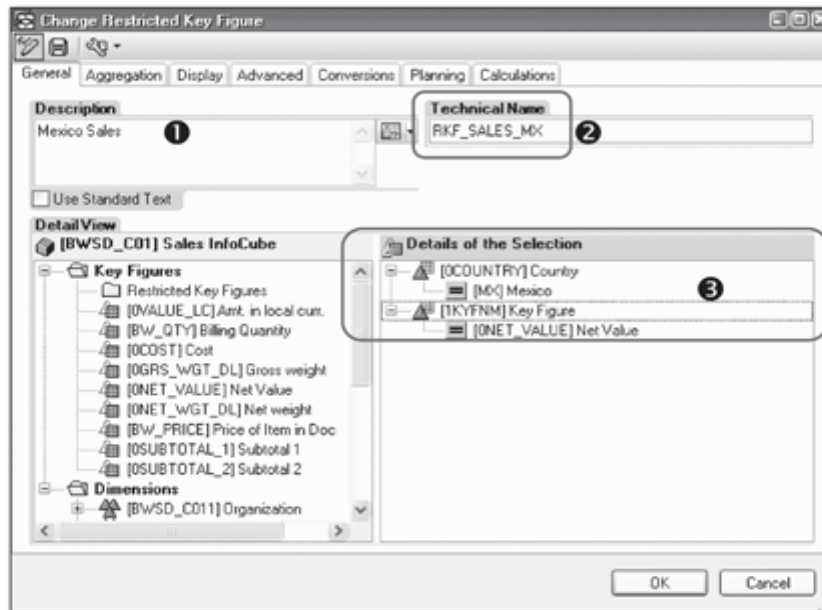

Figure 9.63 Define Restricted Key Figure
You have to provide the RKF a suitable Description (❶ of Figure 9.63) and also a Technical Name (❷) in the definition screen.